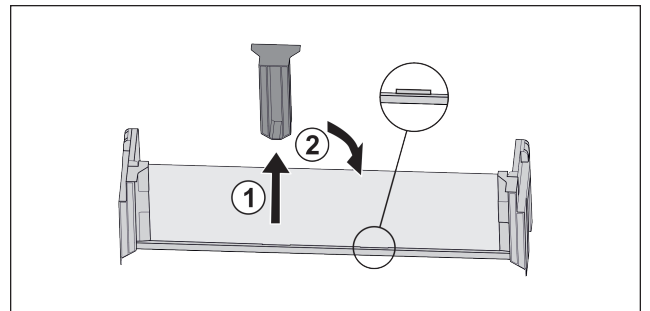

Fig. 81
- ▶ Pull off the middle holder Fig. 81 (1).
- ▶ Insert the middle holder in the second position Fig. 81 (2).